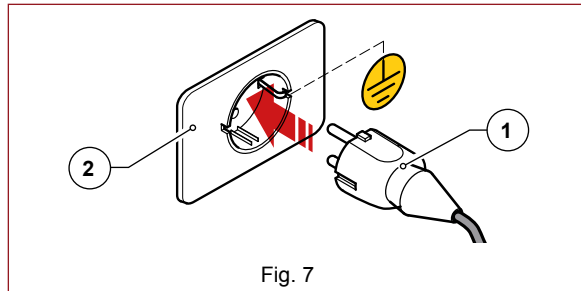

Fig. 7
- Put the power cable plug (Fig. 7 Part. 1) into the wall socket provided at the place of use (Fig. 7 Part. 2);